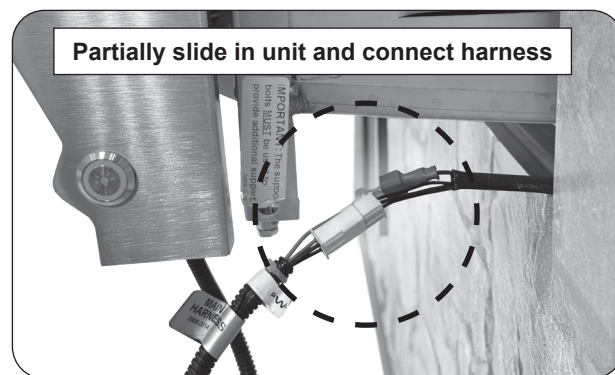

Fig. 26-3 Connect harnesses
3. **PARTIALLY** insert the unit into the enclosure cutout (slightly more than halfway). Then, connect the harness extension to the corresponding harness from the unit. See Fig. 26-3.